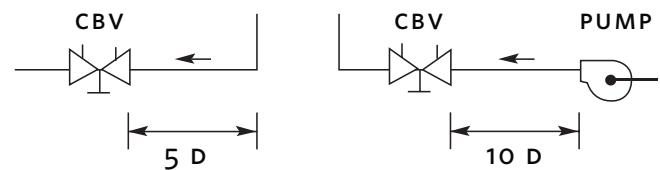

FIG. 1
- 3 To ensure accuracy of measurement Circuit Balancing Valves (cbv's) should be located at least five pipe diameters downstream from any fitting and at least ten pipe diameters downstream from a pump (as illustrated in FIG. 1).